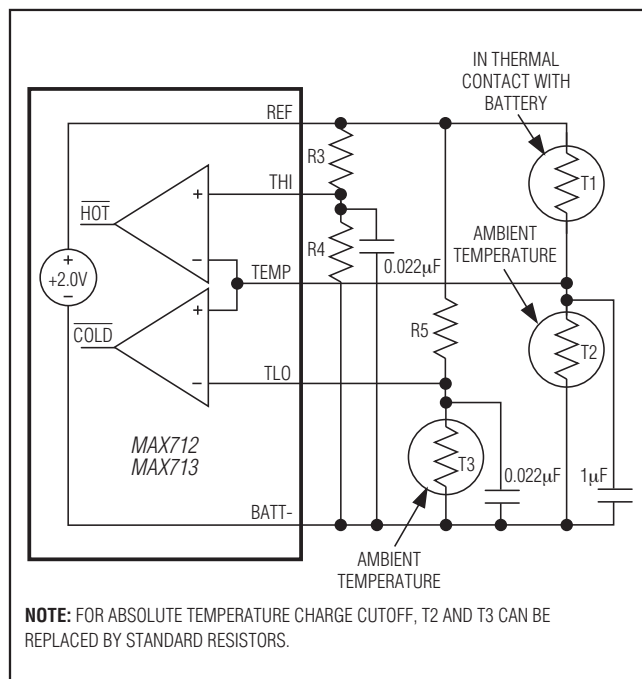
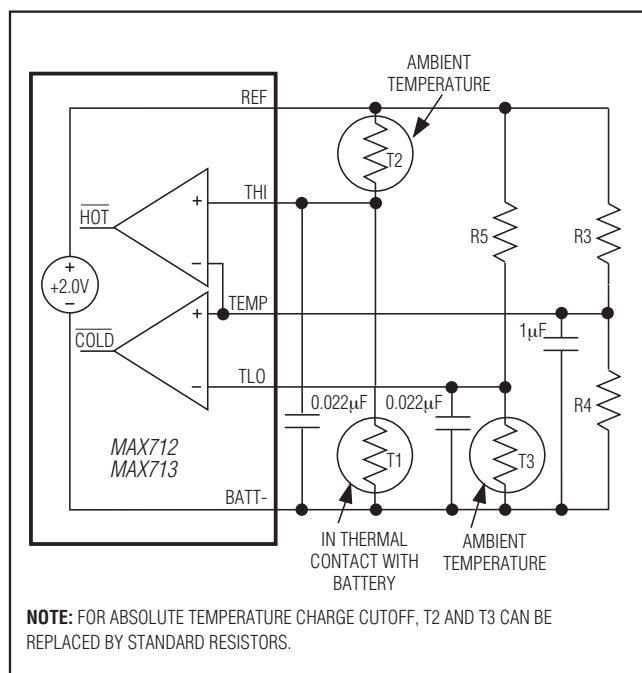
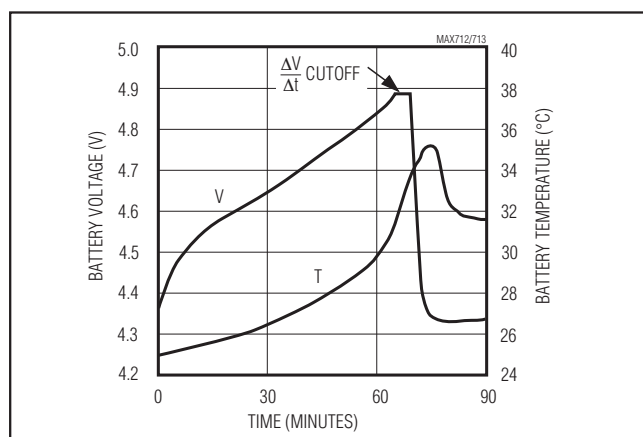

Figure 9a. Temperature Comparators
Figure 9b. Alternative Temperature Comparator Configuration
Figure 13. 3 NiMH Cells Charged with MAX712
Figure 9a shows how the MAX712/MAX713 detect over- and under-temperature battery conditions using negative temperature coefficient thermistors. Use the same model thermistor for T1 and T2 so that both have the same nominal resistance. The voltage at TEMP is 1V (referred to BATT-) when the battery is at ambient temperature.
Some battery packs come with a temperature-detecting thermistor connected to the battery pack's negative terminal. In this case, use the configuration shown in Figure 9b. Thermistors T2 and T3 can be replaced by standard resistors if absolute temperature charge cutoff is acceptable. All resistance values in Figures 9a and 9b should be chosen in the 10k Ω to 500k Ω range.
Figures 13 and 14 show the results of charging 3 AA, 1000mAh, NiMH batteries from Gold Peak (part no. GP1000AAH, GP Batteries (619) 438-2202) at a 1A rate using the MAX712 and MAX713, respectively. The *Typical Operating Circuit* is used with Figure 9a's thermistor configuration.